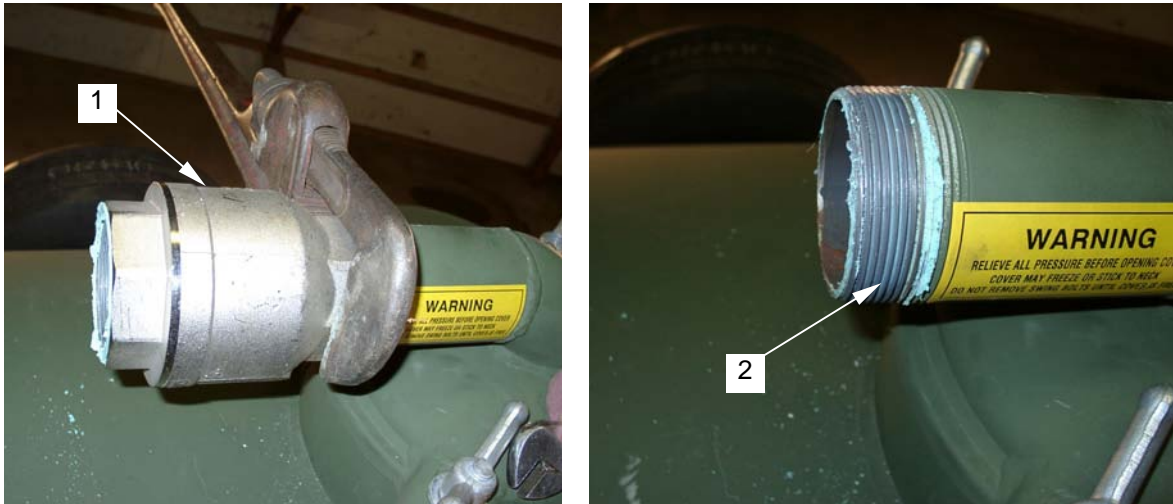

Figure 3. Valve Removal and Installation
6. Loosen and remove valve (**figure 3, item 1**) with a pipe wrench.
7. Clean threads and apply pipe sealant to the cover threads (**figure 3, item 2**).